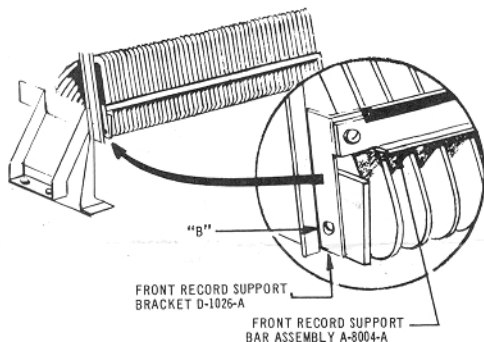

FIGURE 5. FRONT RECORD RACK SUPPORT
(See Fig. 5.):
- A. Place the new "Front Record Support Brackets D-1026-A" (Fig. 5) on top of the Seeburg number strip mounts with the flanges turned in and re-install the Seeburg screws "B" (Fig. 5). (One on each end of rack).
- B. Screw on the new "Front Record Support Bar Assembly A-8004-A", rubber edge up, to the flanges of the "Support Brackets D-1026-A" with two of the 6/32 x 1/4 round head machine screws furnished and two of the #6 washers. (Fig. 5.):